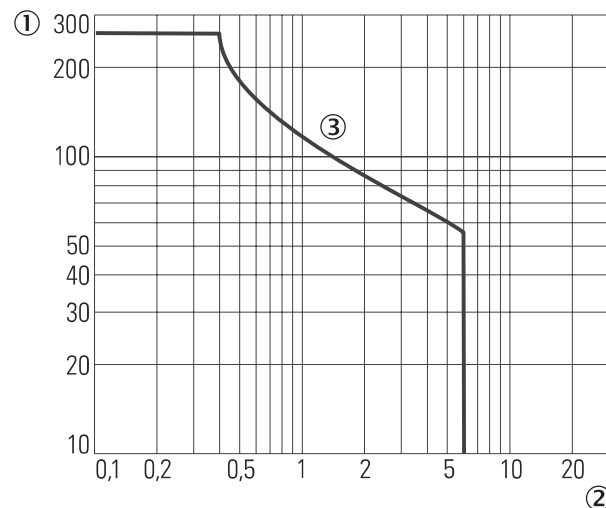
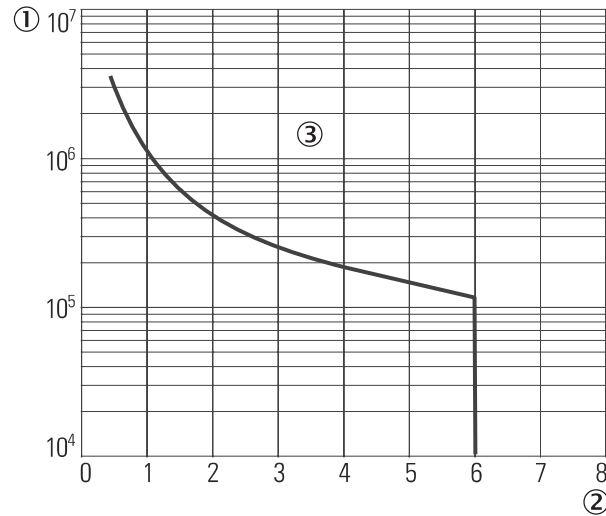

Figure 64: Maximum switching voltage for direct current, UE410-2RO/UE410-4RO relay modules
Figure 65: Electrical endurance of UE410-2RO/UE410-4RO relay modules
| Electrical endurance | see figure 65, page 169 | | |
1) see figure 64, page 168 or see figure 65, page 169.